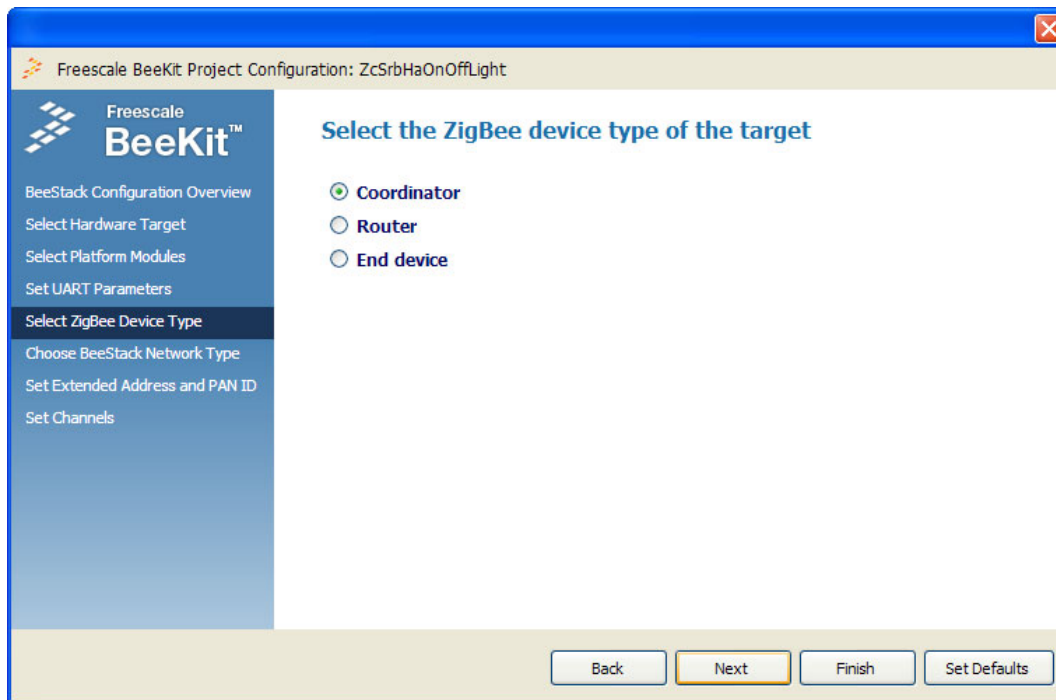

Figure 3-7. ZigBee Device Type Selection Page
6. Leave the default UART settings unchanged. UART module will be enabled on the USB port of the SRB and ZTC will be disabled. Click Next to go to the ZigBee Device Type Selection wizard page shown in Figure 3-7.